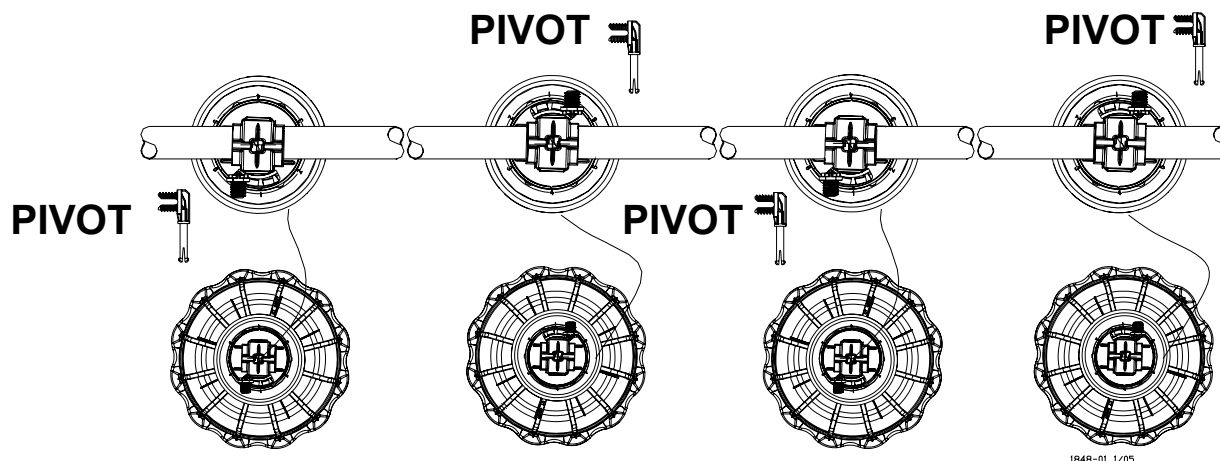

Figure 33. Assemble Feeders on tubes
2. Rotate the auger tubes so that the seam is down, this holds the Pan Assemblies in place on the tubes. See Figure 33.